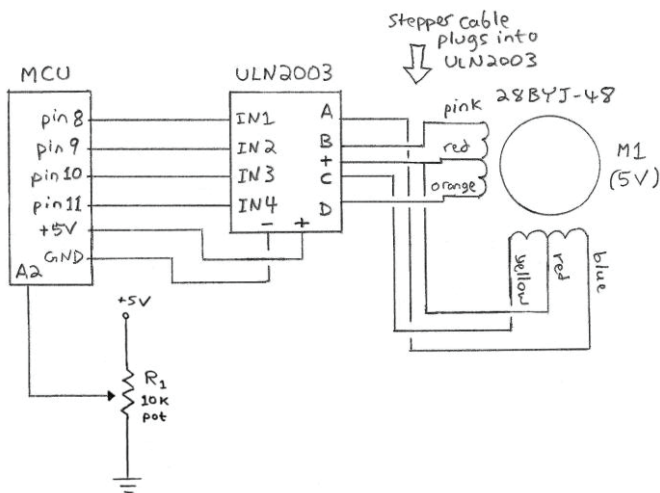

Figure 6-26. Circuit diagram for Activity 6-2(a): 28BYJ-48 stepper motor with ULN2003.
- 1) Assemble the 28BYJ-48 circuit following Figure 6-26 below.